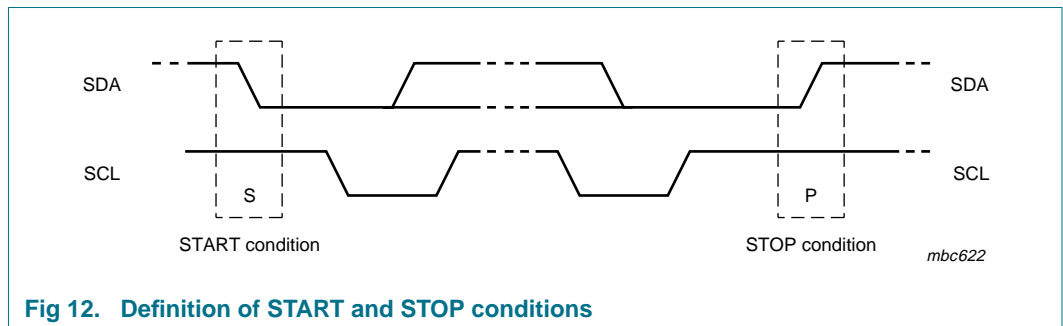

Fig 12. Definition of START and STOP conditions
Both data and clock lines remain HIGH when the bus is not busy. A HIGH-to-LOW transition of the data line, while the clock is HIGH, is defined as the START condition (S). A LOW-to-HIGH transition of the data line, while the clock is HIGH, is defined as the STOP condition (P); see Figure 12.